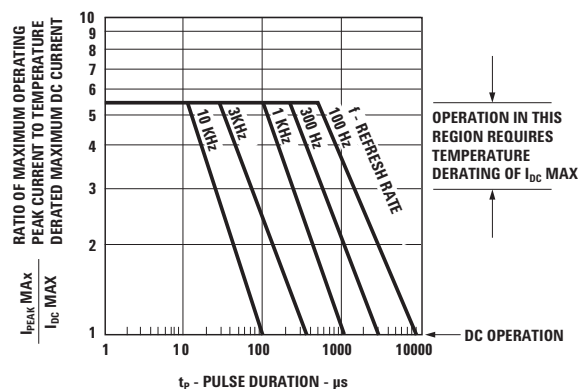

Figure 2. Maximum Tolerable Peak Current vs. Pulse Duration – AlGaAs Red.
3. See Figure 2 to establish pulsed operating conditions. Maximum pulse width is 1.5 ms.